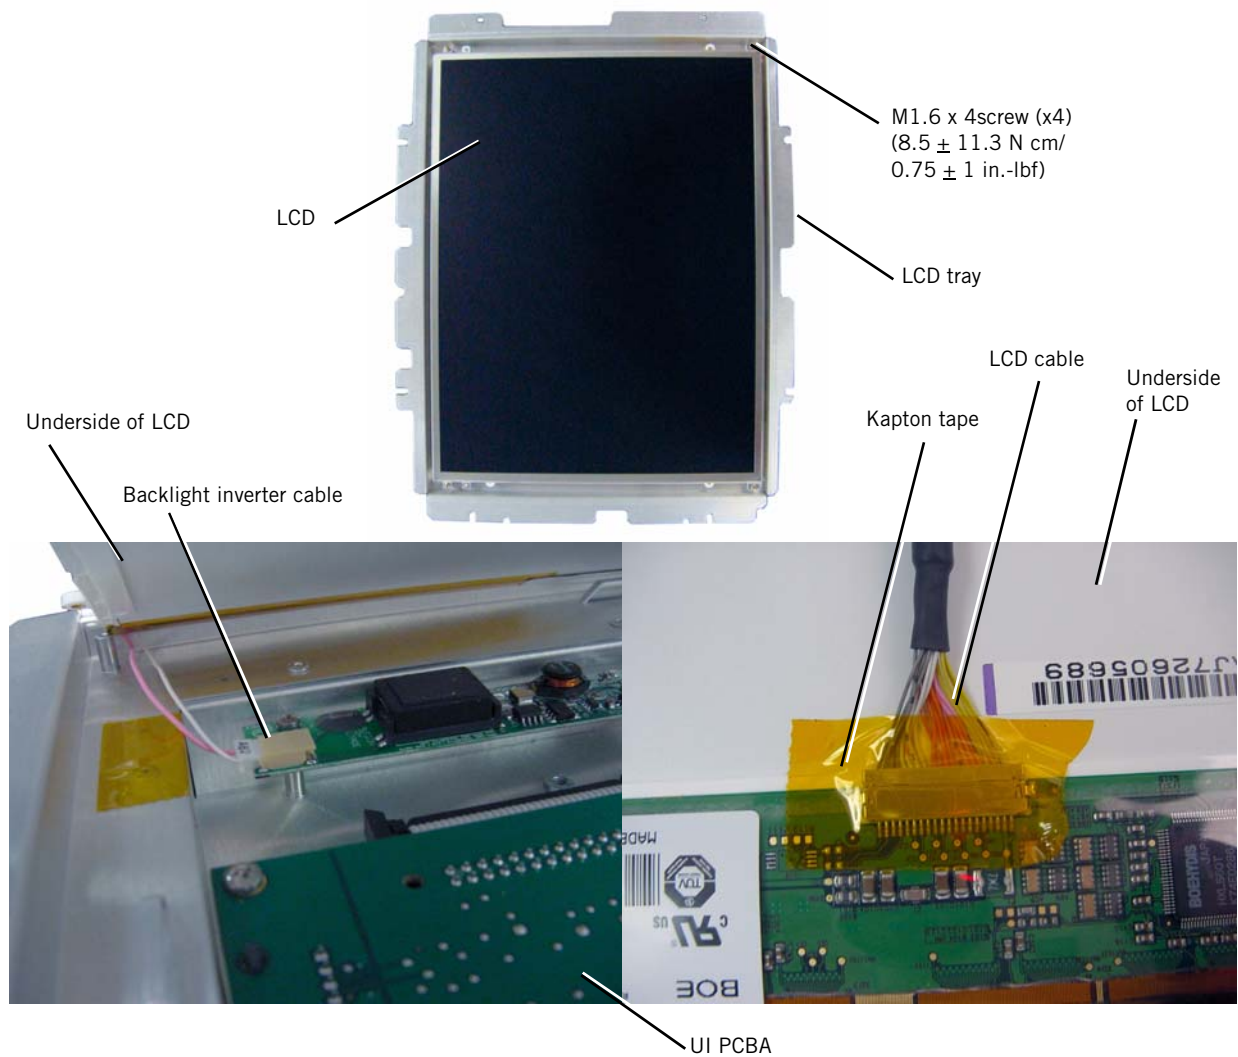

Figure 7-34: Removing the LCD
**7.33 LCD** Follow these steps to remove the LCD (Figure 7-34). Reverse to install.